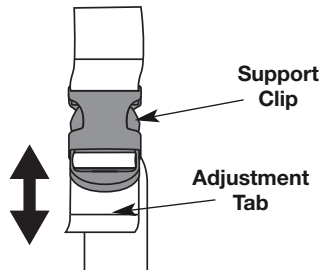

Fig. 3
- Adjust by lifting slightly on the rear of the lower clip, push or pull the loose end of the strap length to fit the operator's size and comfort. (Fig. 3).